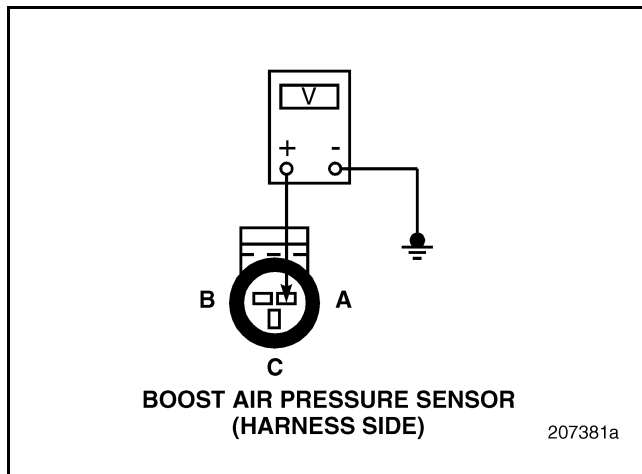

Figure 172
4. Measure the voltage between BAP Sensor harness connector pin A (ground line) and a good ground (see Figure 172).